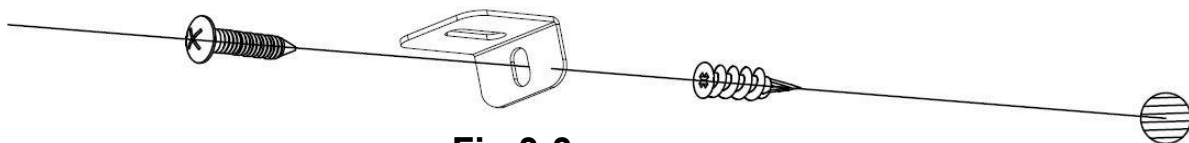

Fig 3-3
C. Install the plastic anchor (**C**) into the drywall, then install the screw (**B**) (supplied) into the hole of the L-bracket into the wall anchor to secure the fireplace from coming off the hooks. (**Fig 3-3**).